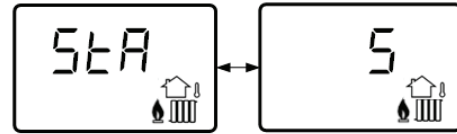

Figure 2: Status Screen during Calibration
- k. After boiler status returns to "B" remove call for heat, set *ROB* to On and repeat for a total of 5 times. See Figures 2 and 3.